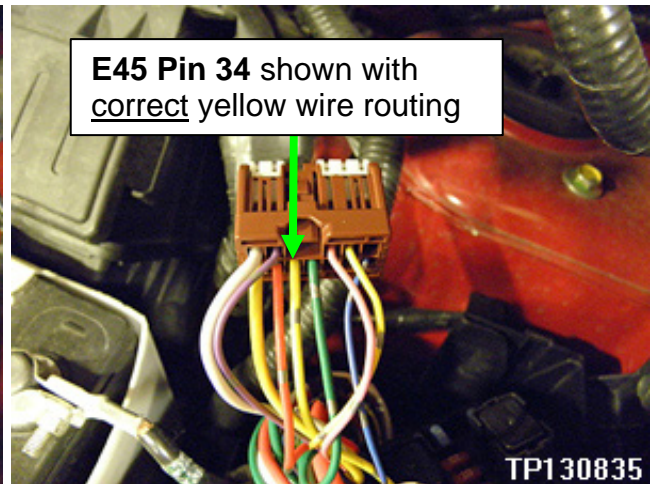

Figure 6
10. Install the yellow wire into the marked position on connector E45 (see Figure 6).